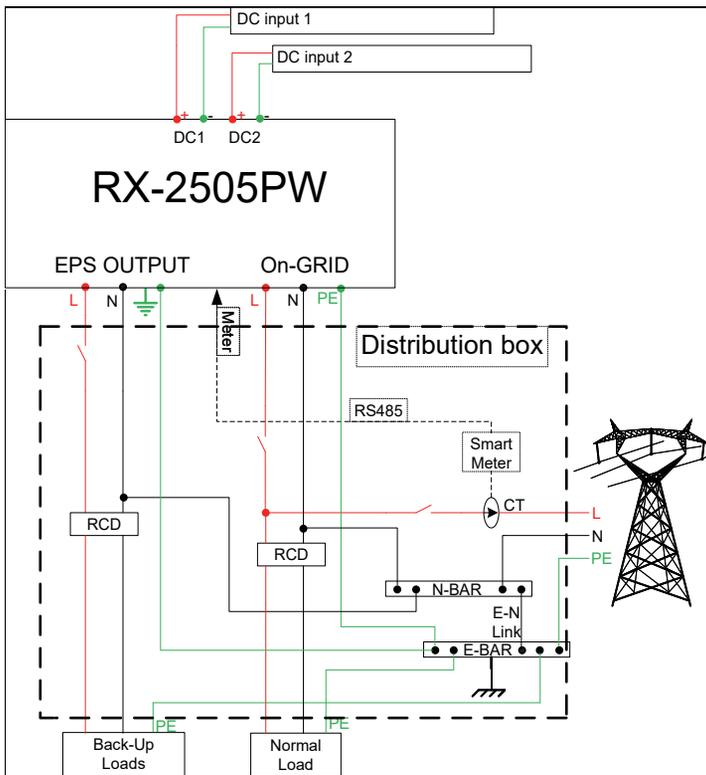

Figure 5-7 – 240V connection and DC1/2 diagram On-grid with EPS
2. If you need to use both the grid connection and backup power supply functions, refer to Figure 5-7 to connect cables.